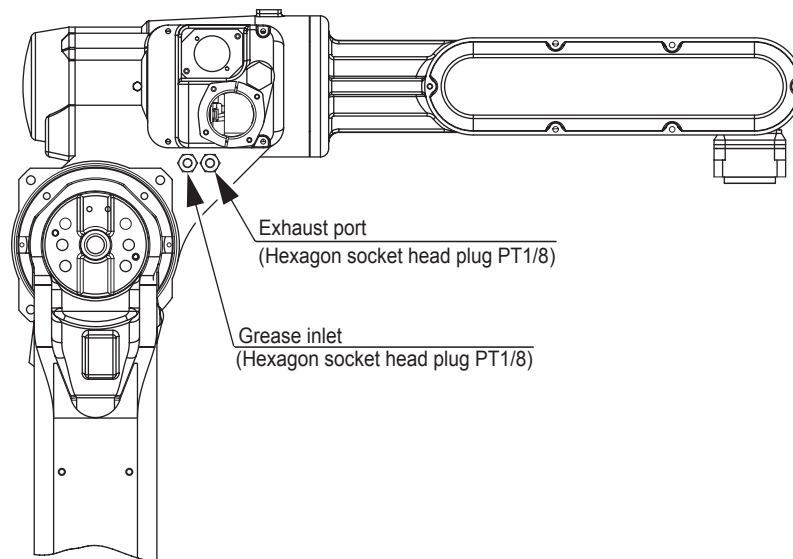

Fig. 31 (a) R-Axis Speed Reducer Diagram (For Serial Numbers S3W120-5 to S3W120-6)
3. Inject grease into the grease inlet using a grease gun. (Refer to " Fig. 31 (a) R-Axis Speed Reducer Diagram (For Serial Numbers S3W120-5 to S3W120-6) ".)